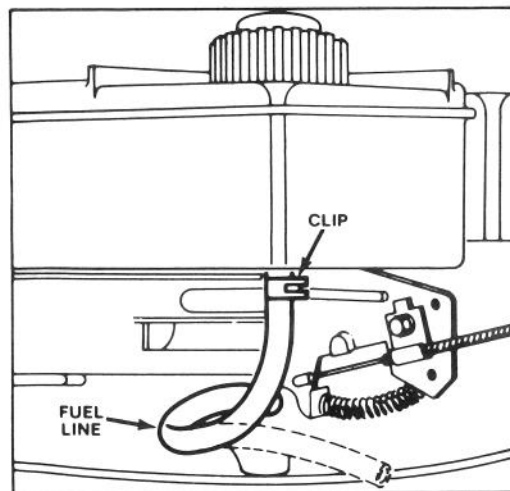

Figure 11
2. Squeeze ends of clip holding fuel line on fuel tank fitting (Fig. 11). Slide clip down fuel line.